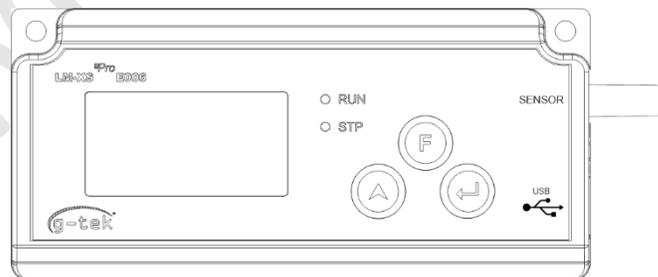

Figure 5 External Sensor jack Inserted
- Sensor will be inserted in the LM-XS Pro E006 data logger using 4 contact 3.50 mm Stereo jack connector. Connect sensor cable as per figure 5.